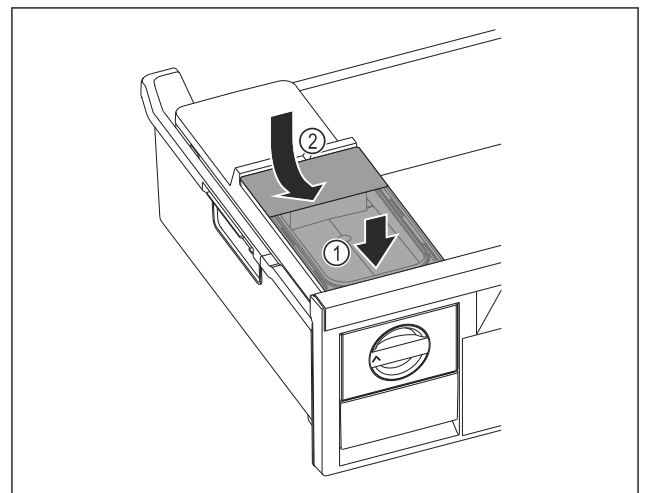

Fig. 72
- ▶ Position the water tank at the front. *Fig. 72 (1)*
- ▶ Lower the water tank at the rear. *Fig. 72 (2)*